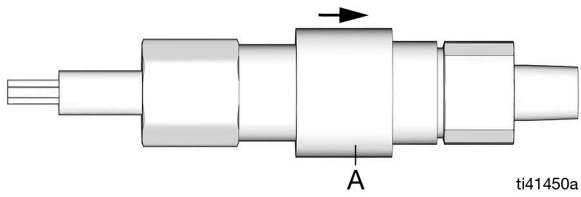

FIG. 2
6. After setting is complete, slide adjustment collar (a) (closed), over adjustment chamber opening (FIG. 2).